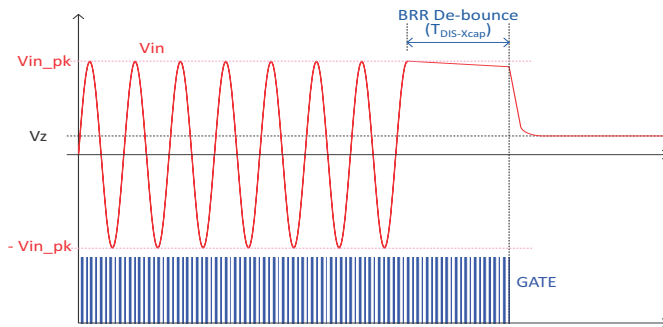

Figure 20. X-Capacitor Discharge by Bleeding Resistor Removal (BRR) Function
For EMI requirement, X class capacitor is used to connect between Line (L) and Neutral (N) terminals of AC input. This X class capacitor will be charged to high voltage by AC line input. When the AC line is removed, the charged voltage may trigger a hazard. In general, bleeding resistors are parallel with X class capacitor for discharging the residue voltage to meet the safety requirement. The power consumption of bleeding resistor is not acceptable for the next generation of green requirements. AOZ7503 provides a circuit with no losses that removes the bleeding resistor to save the losses caused by the bleeding resistor. AOZ7503 series connect with a zener diode of 47V~51V breakdown voltage to detect AC input voltage. When the AC input voltage is removed, the HV pin of AOZ7503 can detect this event and discharge the residue voltage to safe level in 15ms to several hundred milliseconds. And residue voltage will be discharged lower than the connected zener breakdown voltage of the connected zener diode. X-Capacitor discharge by Bleeding Resistor Removal function is shown as Figure 20.